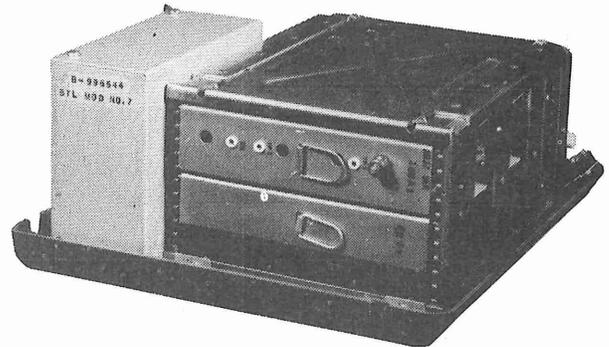

Figure 3 - Data Auxiliary Set 820D
2.06 The 37 RO TTY station includes either an 820D Data Auxiliary Set (Figure 3) equipped with the Data Set 108A, 108C, 108D, 108E, 109A or 109E, or the 1A data station, Single Channel Arrangements (SCA). The data auxiliary set or data station functions as an interface between the teletypewriter terminal and the signal line.